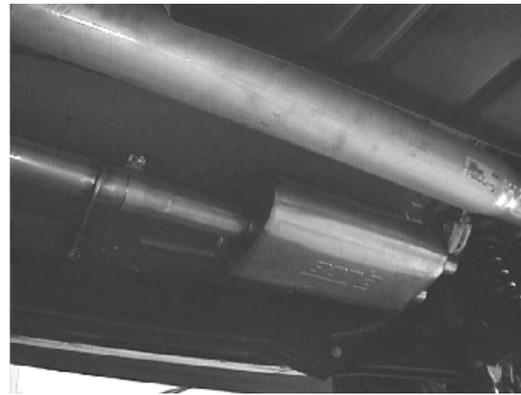

Figure 4
2. Place a clamp over the expanded end of the inlet pipe on the muffler assembly. Now place the muffler assembly in position shown in figure 4 and tighten the Accuseal™ clamp to 32-35 ft. lbs.